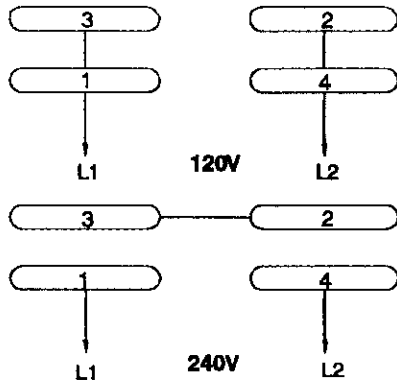

Figure 9 - Wiring Schematic
- See wiring diagram (Figure 9) for wiring instructions.